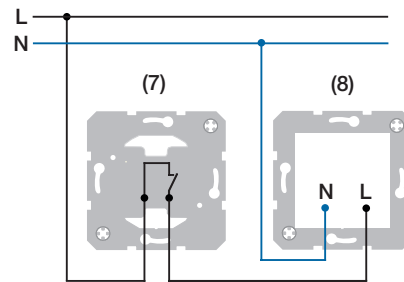

**Figure 3:** Connection example of LED signal light, red/green lighting
**Figure 3:** Series push-button, 2 NO contacts, common input terminal [Order no. 5035] / series push-button, NC contact + NO contact isolated input terminals [Order no. 5035 01] / series push-button, 2 NO contacts, isolated input terminals [Order no. 5035 03]